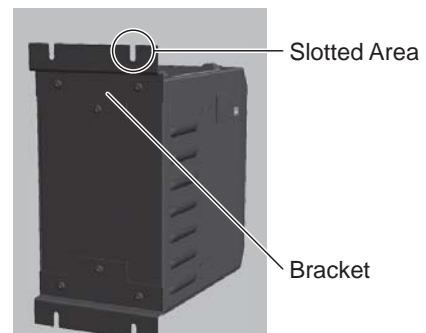

Fig. 14
- The Bracket can be installed on the " Bottom Mounting (Fig. 13) " and " Rear Mounting (Fig. 14) " of the CONTROLLER.
- (1) Attach the Installation Brackets (2pcs.) using the provided Mounting Screws (6pcs.).
- (2) Attach the CONTROLLER (Bracket's Slotted Area) to the machine using the provided Mounting Screws (6pcs.).